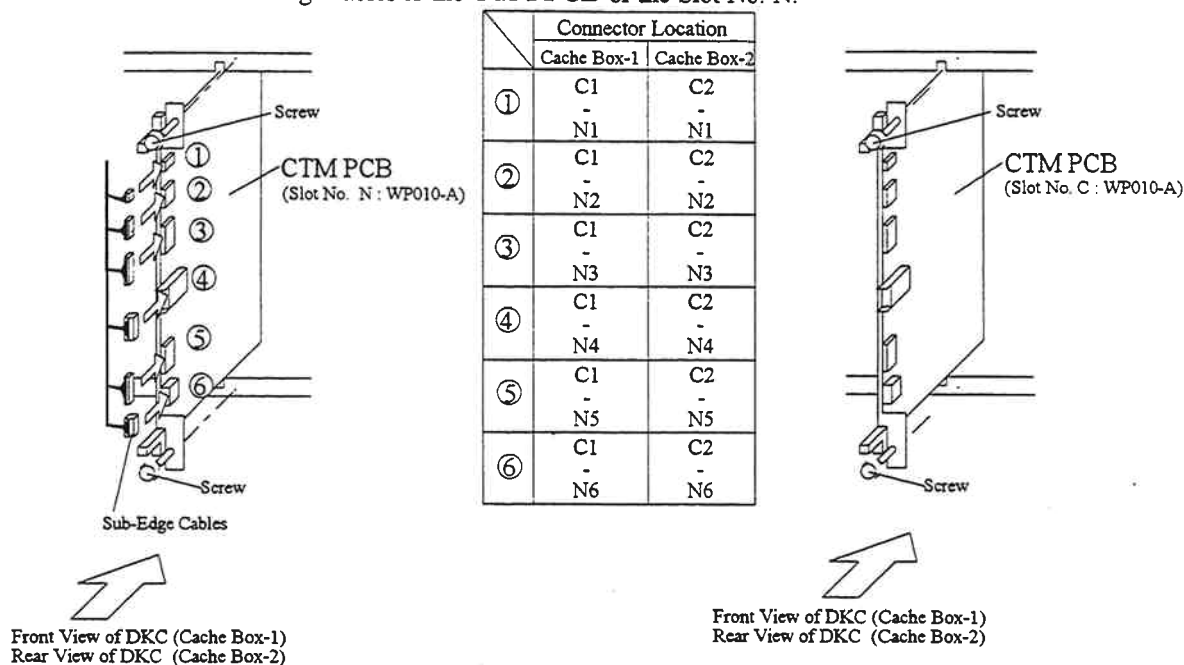

Fig. 3.3.7.7.2-39 Insertion of the Cache PCB
- c. While referring to Fig. 3.3.7.7.2-40 and Table 3.3.7.7.2-5, insert the CPS PCB into the Cache Box and fasten the two screws.